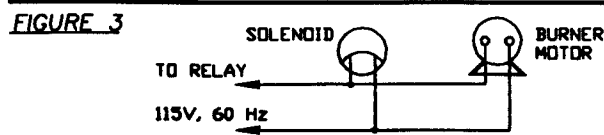

FIGURE 3
**DISCONNECT POWER SUPPLY BEFORE WIRING TO PREVENT ELECTRICAL SHOCK OR EQUIPMENT DAMAGE.** Lead wires on these devices are long enough to reach the junction box on most burner installations. Note: check the burner manufacturer's installation sheets for correct solenoid wiring. For all other applications, wire solenoid in parallel with burner motor. (see Figure 3). All electrical work should be done according to local and national codes. (Solenoid 115V, 0.1A, 60 Hz)